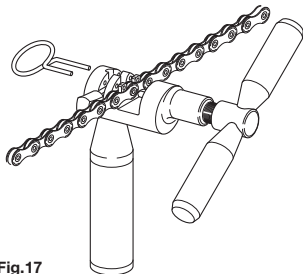

Fig.17
- Insert the link to close into the provided seats (**Fig. 17**).